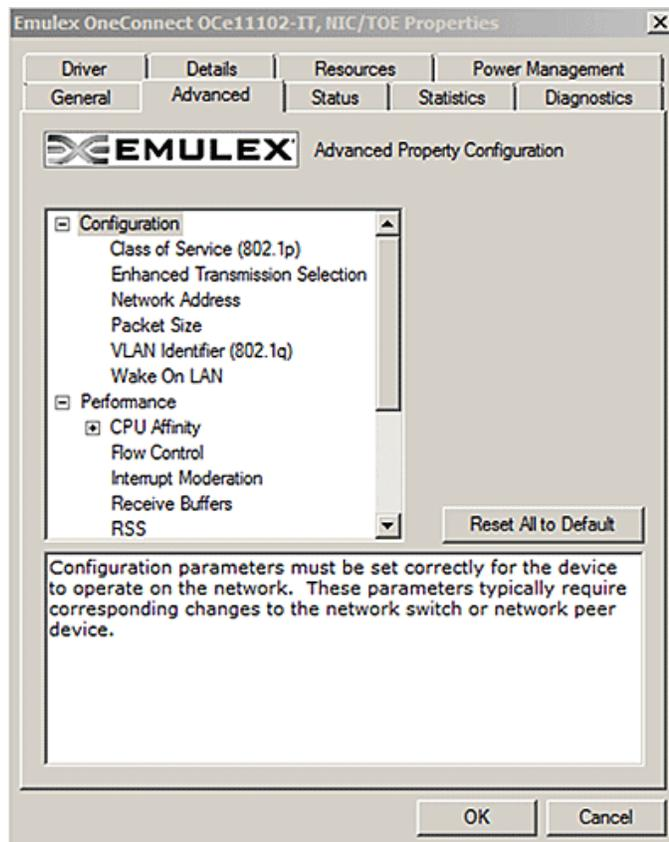

Figure 3-2 NIC/TOE Advanced Properties in Windows Server 2008
3. Click **Properties**, then click the **Advanced** tab (Figure 3-2 on page 57).